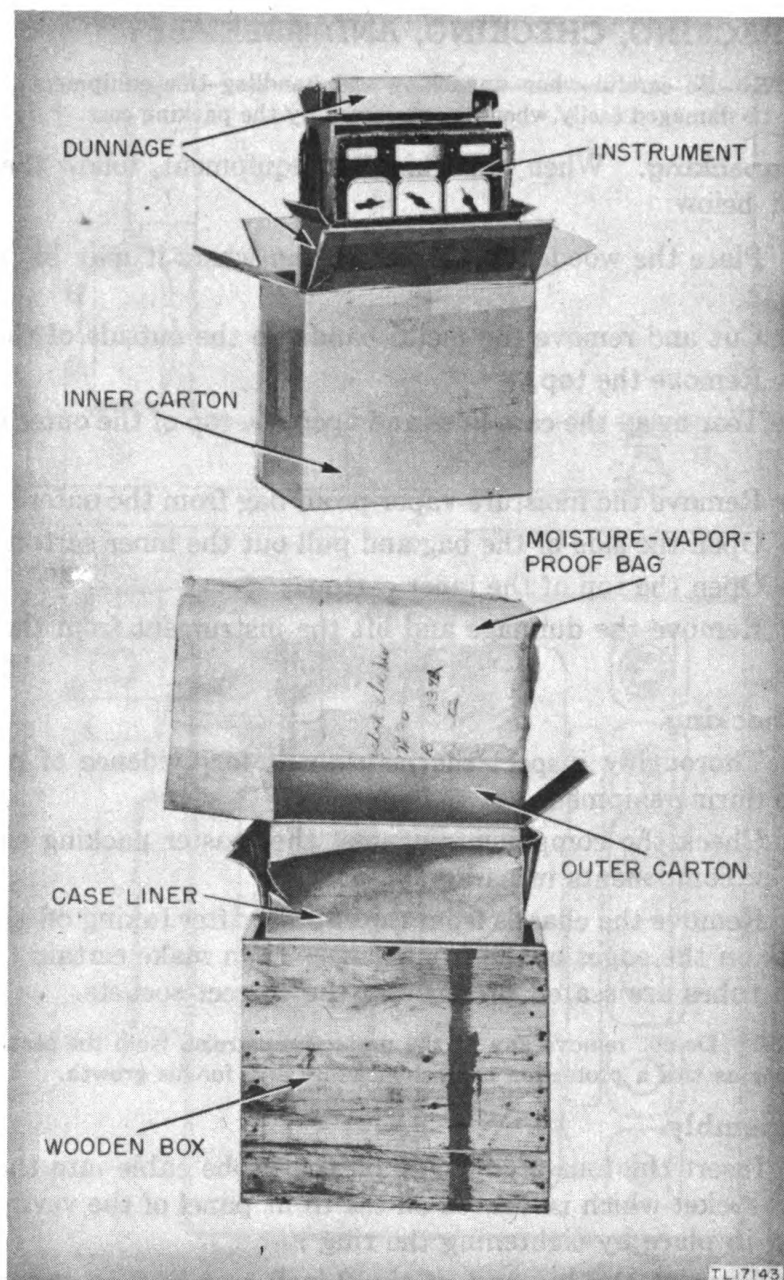
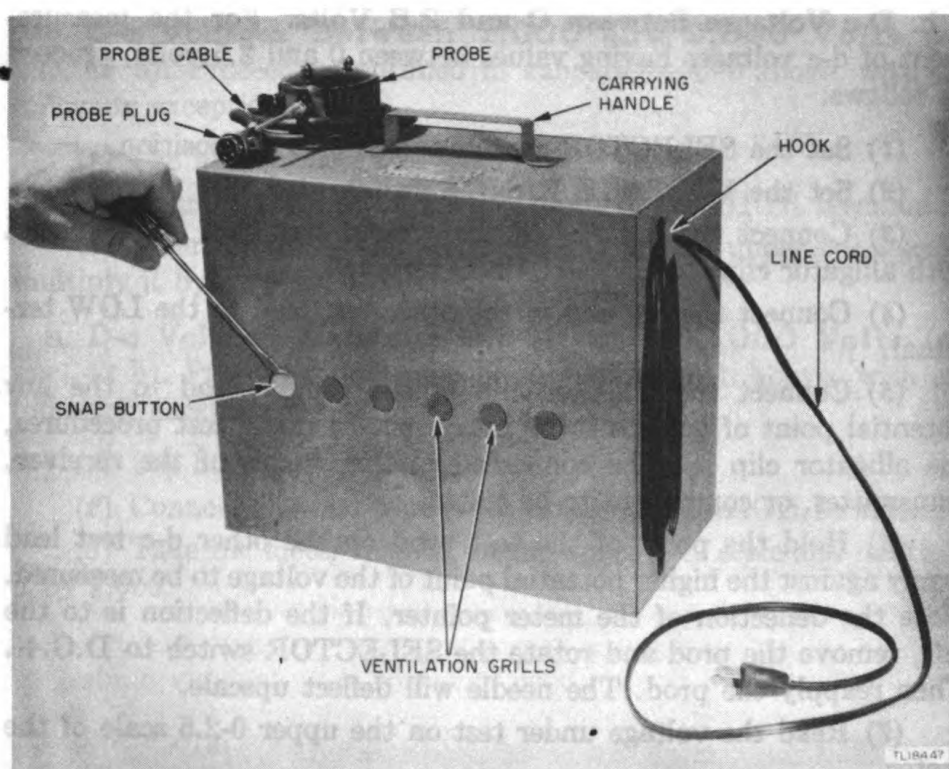

Figure 3. Packaging data.
Figure 6. Vacuum tube voltmeter, back of cabinet.
b. Ventilation grilles are located on the back of the vtvm (vacuum tube voltmeter) (fig. 6) in addition to a snap button which, when removed, makes a screwdriver control accessible. This control is used, when necessary, for making meter zero adjustments on a-c voltage ranges.
- (1) Place the wooden box in a location where it may be opened easily.
- (2) Cut and remove the metal bands on the outside of the box.
- (3) Remove the top.
- (4) Tear away the case liner and open the top of the outer carton (fig. 3).
- (5) Remove the moisture-vapor-proof bag from the outer carton.
- (6) Open the side of the bag and pull out the inner carton.
- (7) Open the top of the inner carton.
- (8) Remove the dunnage and lift the instrument from the inner carton.
When the equipment is not in use, always be sure that the POWER switch is OFF, that the probe is placed in the holding brackets on top of the cabinet, and that the line cord is removed from the a-c power source and wound around the two hooks on the left side of the cabinet (fig. 6). If the equipment must be stored for a period *exceeding 2 weeks* or if it must be shipped to a new location, carefully re-pack the components into the wooden container from which they were initially removed (fig. 3). If this container is not available, use another wooden container of approximately the same dimensions (par. 5).
(1) Remove the snap cover on the back of the cabinet by prying it out with a small screwdriver (fig. 6). A screwdriver type control (a-c zero adjustment rheostat P5) will then be visible.
(2) Set the **SELECTOR** switch at the **D.C. + position**; set the **VOLTAGE RANGE** switch at the **2.5 position**, and adjust the **BALANCE** control until the meter reads exactly zero.
(3) Rotate the **SELECTOR** switch to the **A.C. position**.
(4) Rotate the a-c zero adjustment rheostat P5 to the setting which brings the meter pointer back to zero. Allow approximately 1 minute for the reading to stabilize after the rheostat is adjusted. This waiting period is necessary because rheostat P5 is wired into the heater circuit of tube VT1 to regulate the amount of cathode emission.